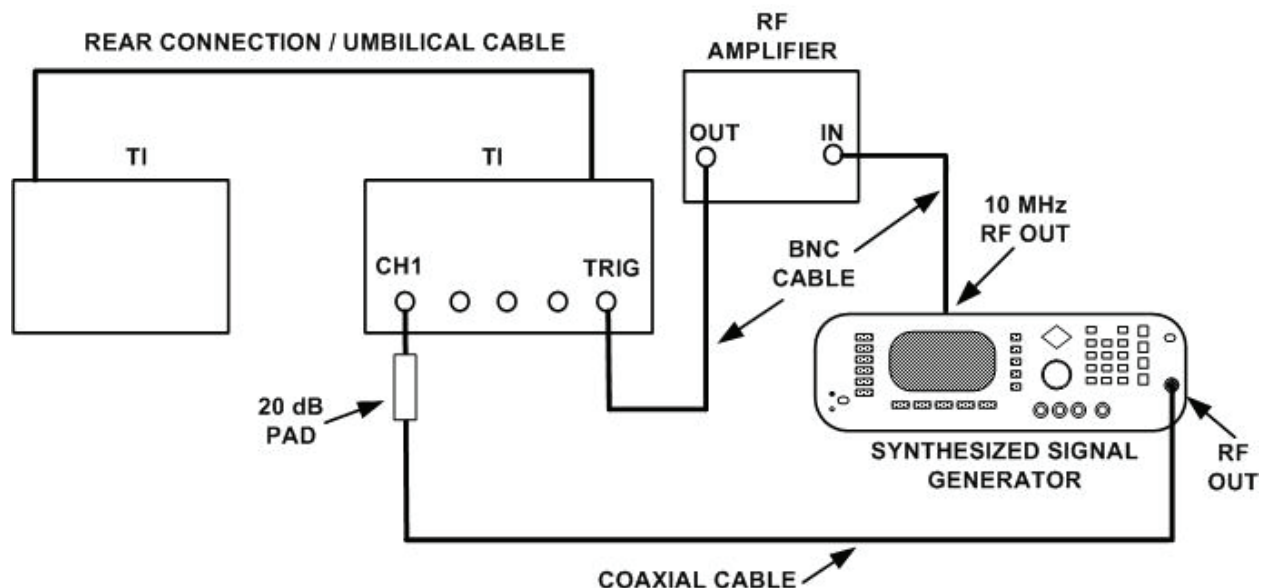

Figure 4. Time interval short delta t - equipment setup.
(2) Press **SYSTEM CONTROL SAVE SETUP** and **ENTRY 3** pushbutton. Press **More** and **Channels** keys and set **Channel 1 to display On** is highlighted.
(3) Connect equipment as shown in figure 4.